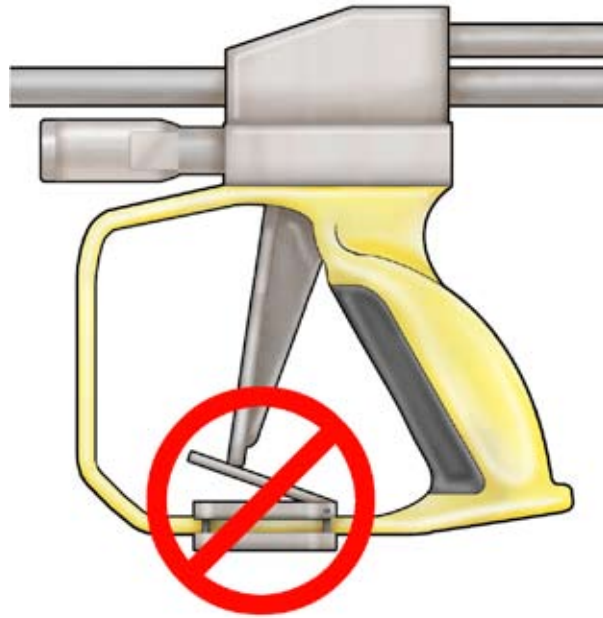

Figure 19. Never use a trigger-assist device or other tool designed to hold down the trigger of a jetting gun.
- Never use a device or tool to hold down the trigger on a jetting gun (Figure 19). The trigger must always be operated by hand only.